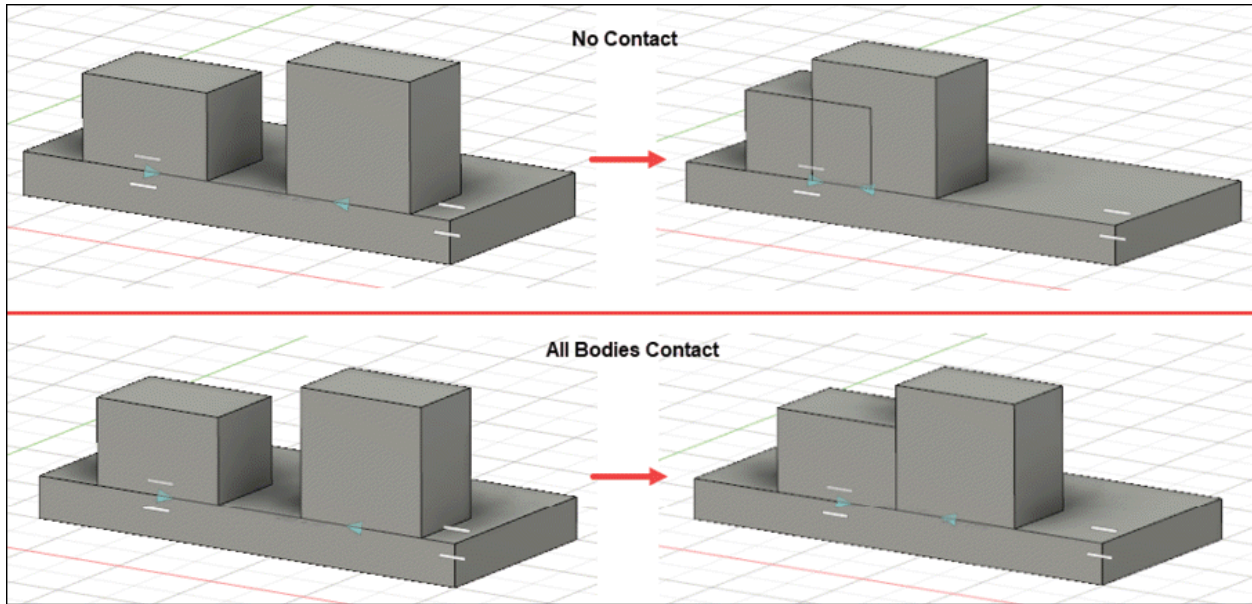

Figure-53. Applying contact sets tool
- Click on **All Bodies Contact** button to activate the contact analysis between sets; refer to Figure-53.